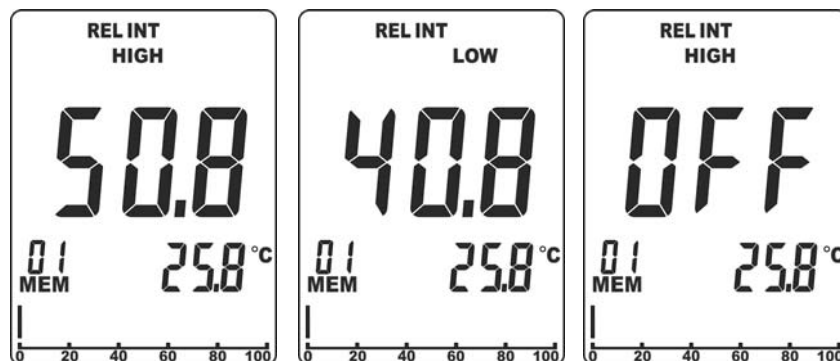

Fig. 6: Setting of alarm thresholds for MOI INT and MOI EXT measurement
1. Press and hold keys **RH%** and **MODE/ZERO** at the same time for a few seconds. The symbol “**HIGH**” is shown on the top of the display (see Fig. 6 – left side).
2. Use the arrow keys ◀ or ▶ to set the value of Maximum threshold in range: **0.1% ÷ 99.9%**. In these conditions, the instrument will give out a **continuous** sound when the measured value of humidity is higher than the set threshold. Select option “**OFF**” to disable the alarm (see Fig. 6 – right side)
3. Press key **MEM/ALM** to confirm and go to the setting of the Minimum threshold. The symbol “**LOW**” is shown on the top of the display (see Fig. 6 – middle).